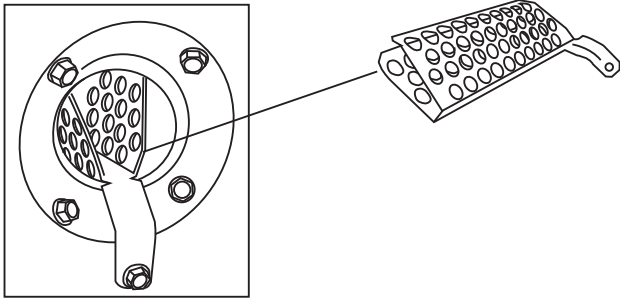

Fig. 18 – NOx Device
1. Remove the screw underneath the heat exchanger inlet that secures the NOx device in the heat exchanger. (See Fig. 18.)